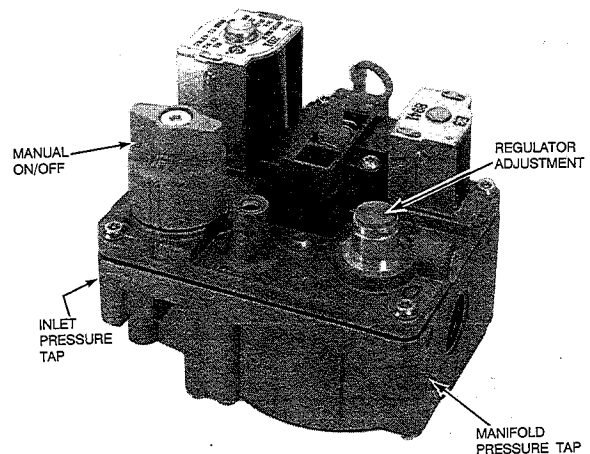

Fig. 14 —Redundant Automatic Gas Control Valve
- (1.) Remove regulator adjustment seal cap. (See Fig. 14.)